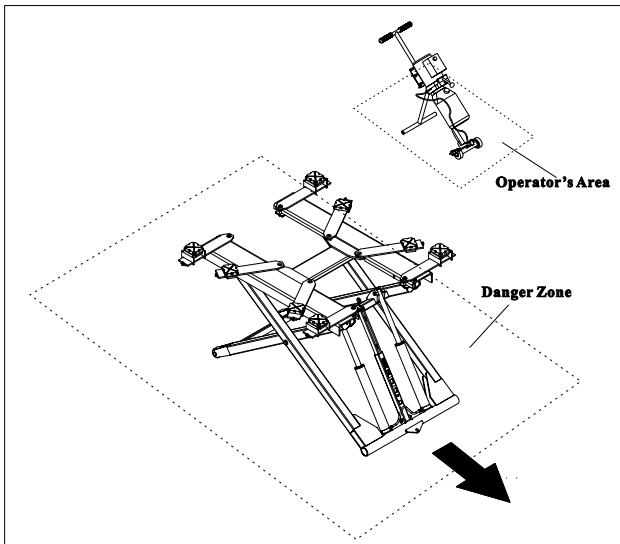

Fig. 3
- Do not enter the danger zone when vehicles are being lifted. **(Fig. 3)**
During up and down operations, no person is admitted to work beneath the movable parts of the lift, should work in the safe zone. (Fig. 3)